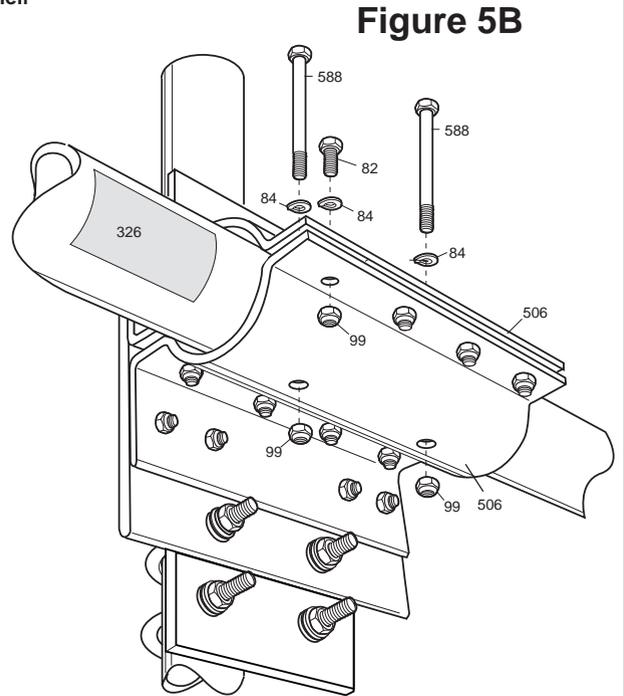

Figure 5B
Place the boom on the boom shelf during installation. Loosely attach the top boom bracket (506) to the mast-plate (542) and to the lower boom bracket (506) as shown in Figure 5B. This allows the boom to be moved back and forth for tower top element mounting.